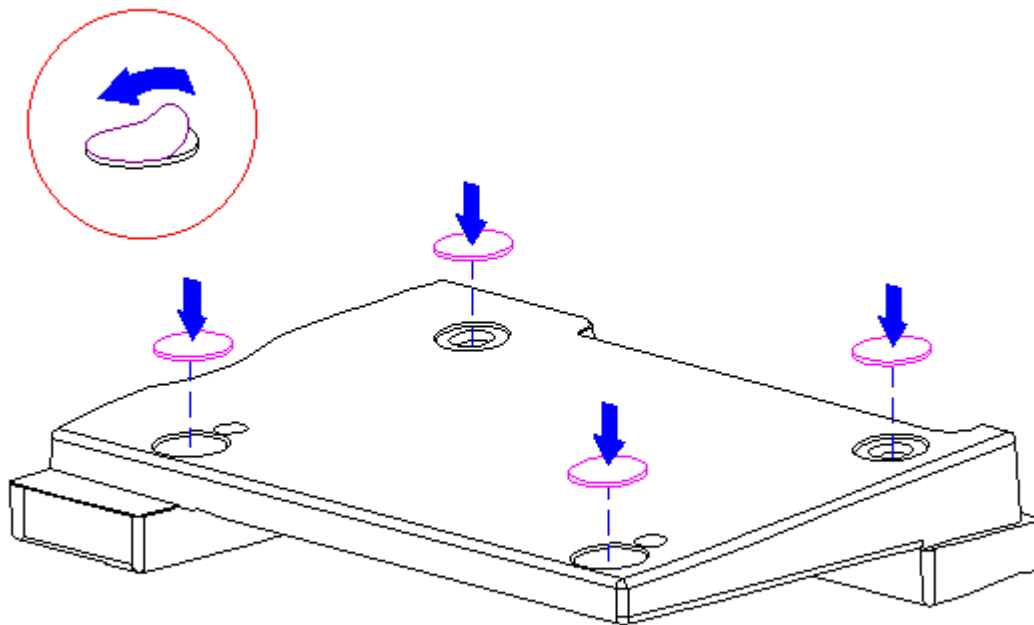

Figure 3-195. Replacing the Docking Base Feet (All Models)
1. Remove the top layer from the foot to expose the adhesive strip (Figure 3-195).
2. Place the foot adhesive-side down into the circular indentation on the bottom of the docking base (Figure 3-195).